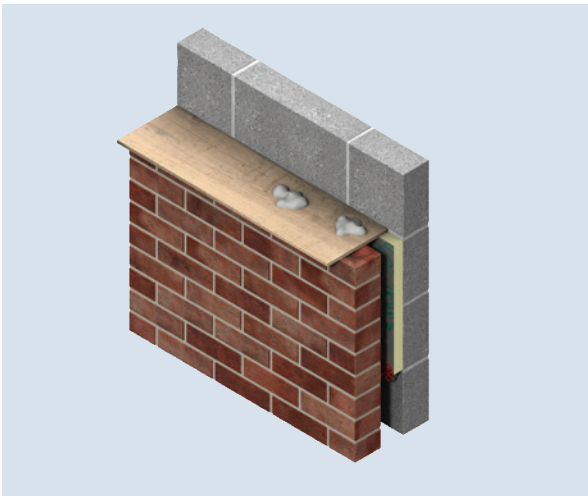

Figure 7 – Use of a Cavity Board to Protect the Cavity and Insulation Board Top Edge
- Use of a cavity batten or cavity board is recommended to protect board edges and maintain a clear cavity (see Figures 7 & 8 or refer to BBA Certificate 14/5133 or NSAI Agrément Certificate 03/0196).